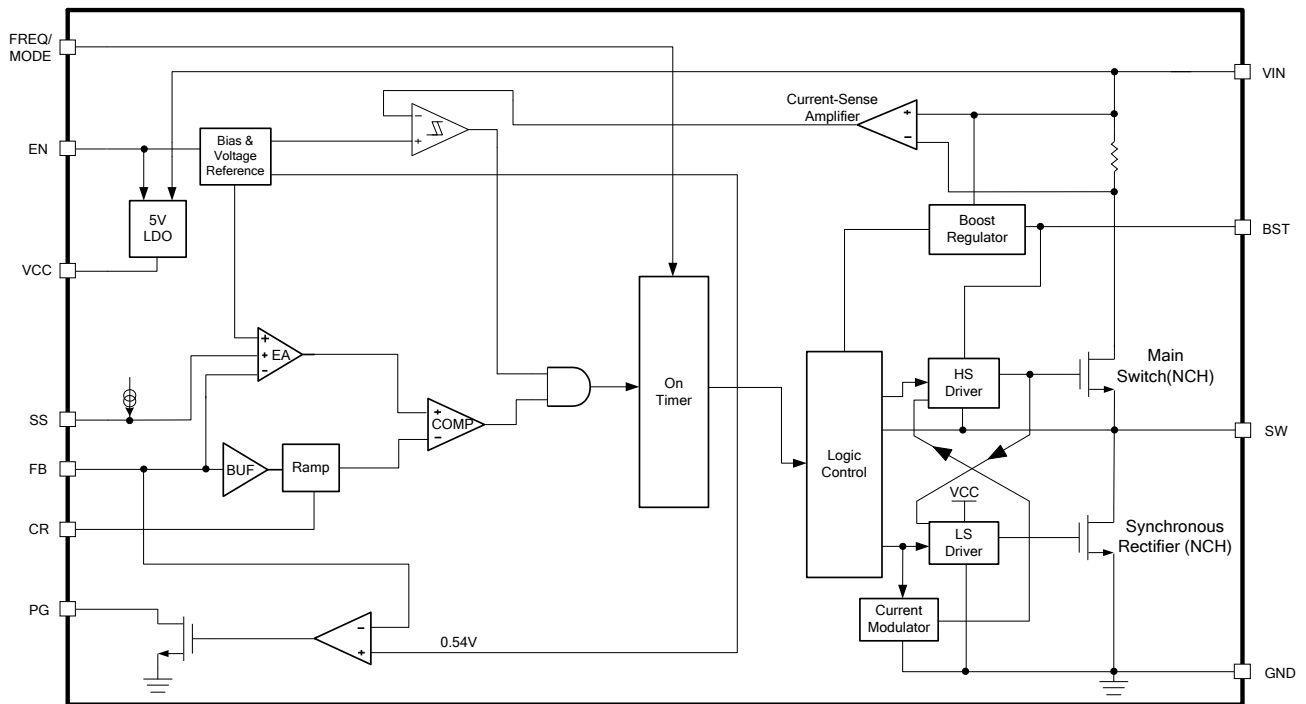

Figure 1: Functional Block Diagram
MP2326 has cycle-by-cycle over-current limit control. During the HS-FET on state, the inductor current is monitored. When the sensed inductor current hits the peak current limit, the HS limit comparator (see Fig. 1) is triggered, the device enters over-current protection mode immediately, and then turns off the HS-FET and turns on the LS-FET. Meanwhile, the output voltage drops until V_{FB} is below the under-voltage (UV) threshold (50% below the reference, typically). Once UV is triggered, the MP2326 enters hiccup mode to re-start the part periodically.